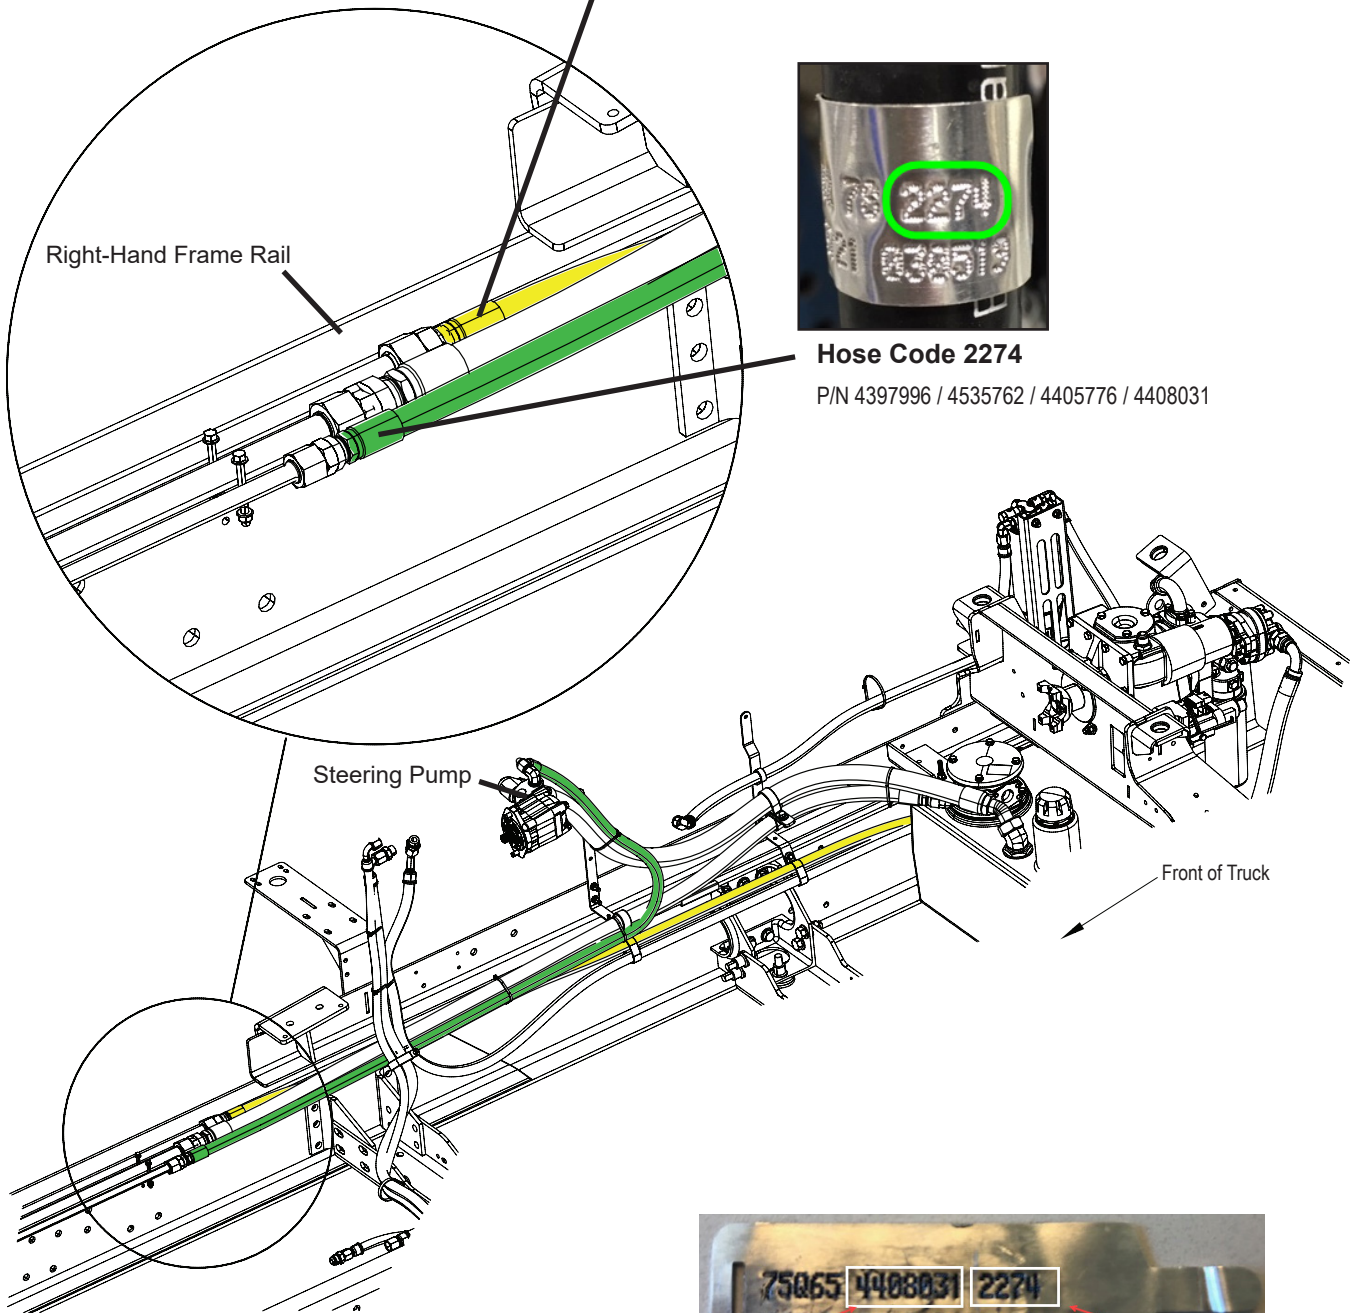

Figure 1
3. Locate the three hardline to hose connections located on the right-hand side frame rail next to the transmission bell housing. See Figure 1. Use the aluminum code identification tags affixed to the hose to identify the hoses.
4. Check that the hose closest to the right-hand frame rail has a “2276” hose code identification tag. Hose “2276” is shown in yellow in Figure 1.
5. Check that the hose closest to the transmission bell housing has a “2274” hose code identification tag. Hose “2274” is shown in green in Figure 1.